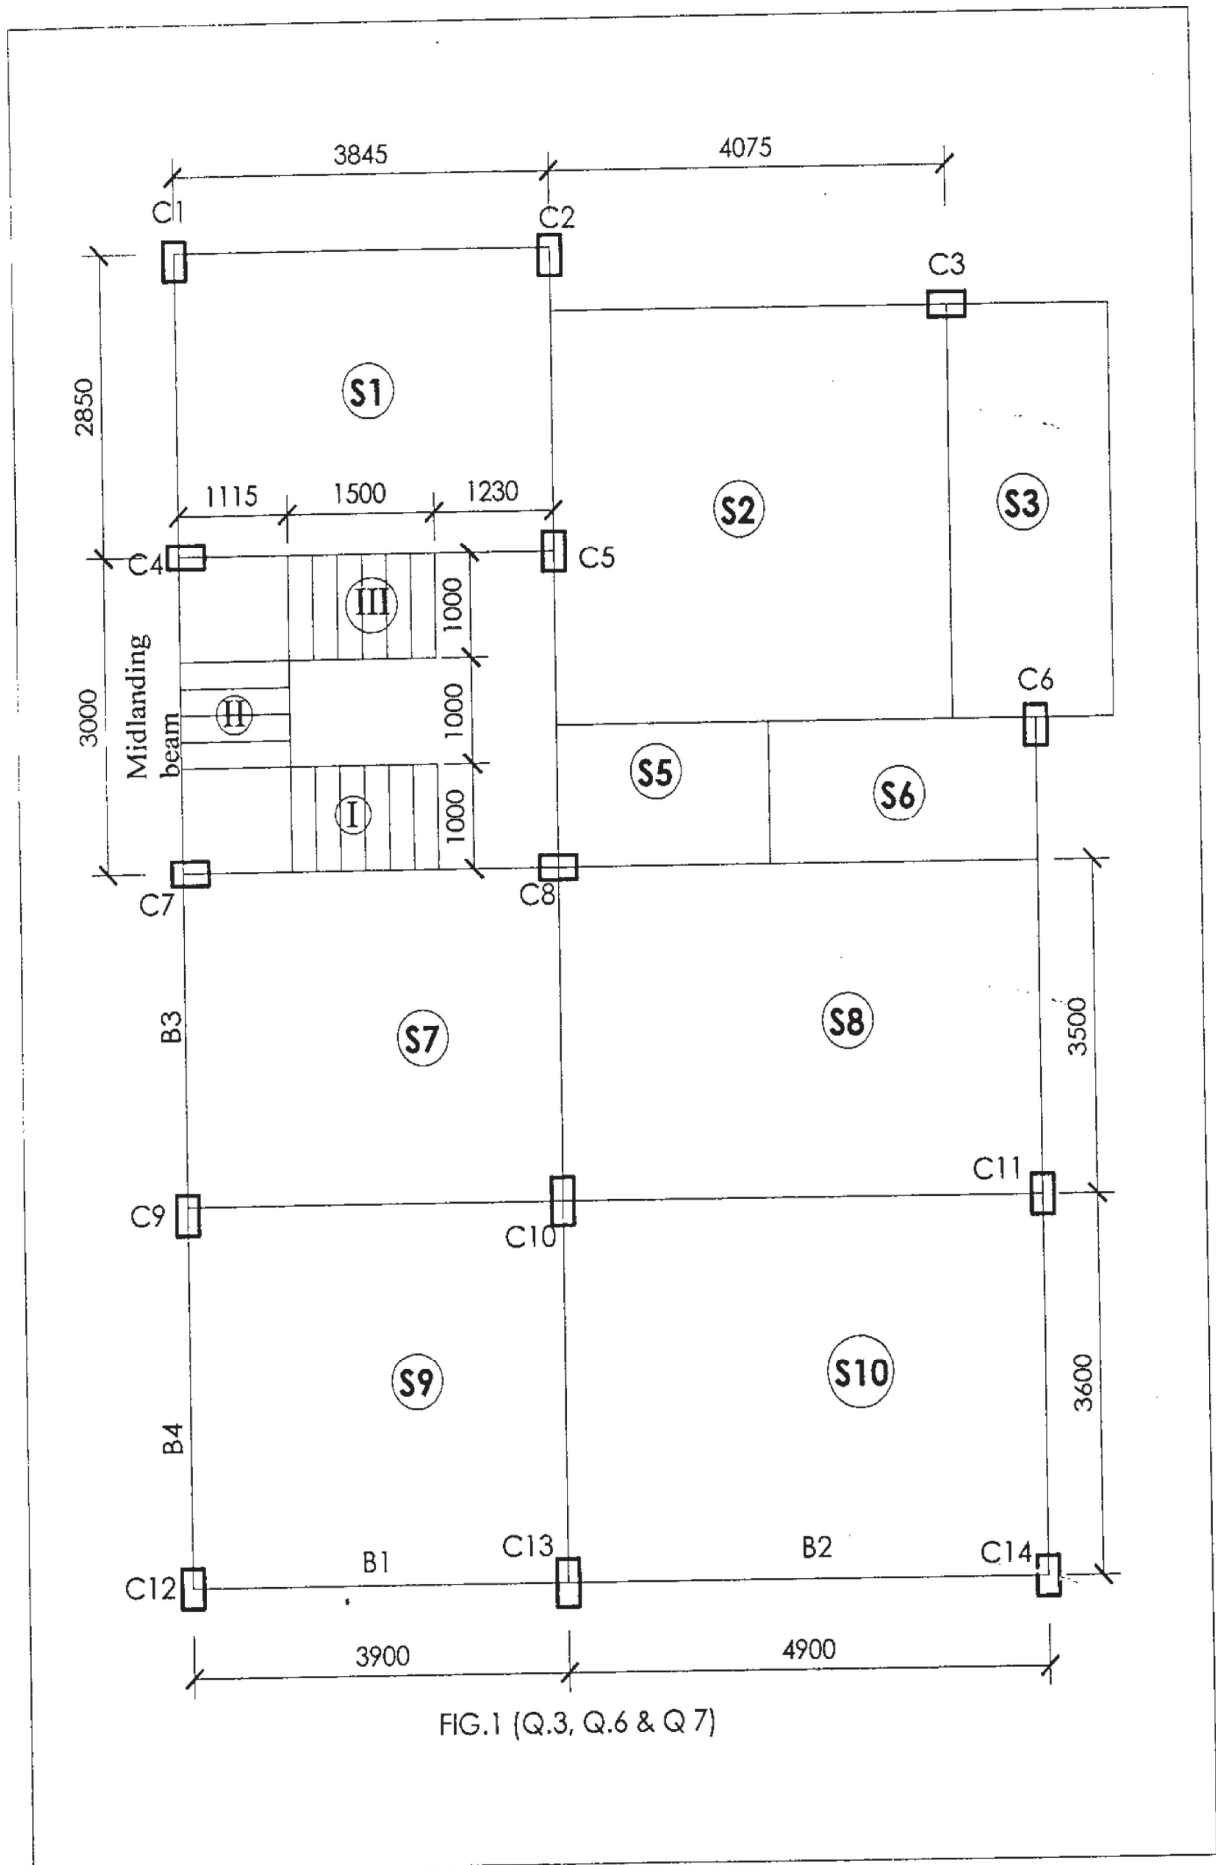

FIG.1 (Q.3, Q.6 & Q 7)
**Q3)** Design floor slabs S7 and S8 only for flexure and torsion. Refer the centerline structural plan given in Figure 1. Width of all beams is 230 mm. Consider live load = 4kN/m2, Floor finish = 1.5 kN/m2. [25]
Refer the centerline structural plan given in Figure 1, Width of all beams is 230mm. Draw the reinforcement details in sectional elevation for both flights.
**Q6)** A continuous R.C.C. floor beam B3 - B4 (Refer Fig.1) is simply supported at end supports and continuous through column C9. Consider live load on slab  $2\text{kN/m}^2$  and floor finish  $1.5\text{ kN/m}^2$ . Assume slab thickness  $130\text{ mm}$  for load calculation. Consider  $230\text{ mm}$  thick brick wall on all exterior beams. Floor to floor height is  $3.23\text{m}$ . Show detailed load calculations and determine support moments, maximum span moments for all beams, using  $20\%$  redistribution of moments. Draw bending moment diagram and design the beam only for flexure. Show the reinforcement details along the length of beam with suitable cross sections. **[25]**
**Q7)** A centerline plan of a G + 2 building is shown in figure 1. Design an axially loaded short column C10 for ground floor only. Also design isolated footing for column C10. Use following details: **[25]**